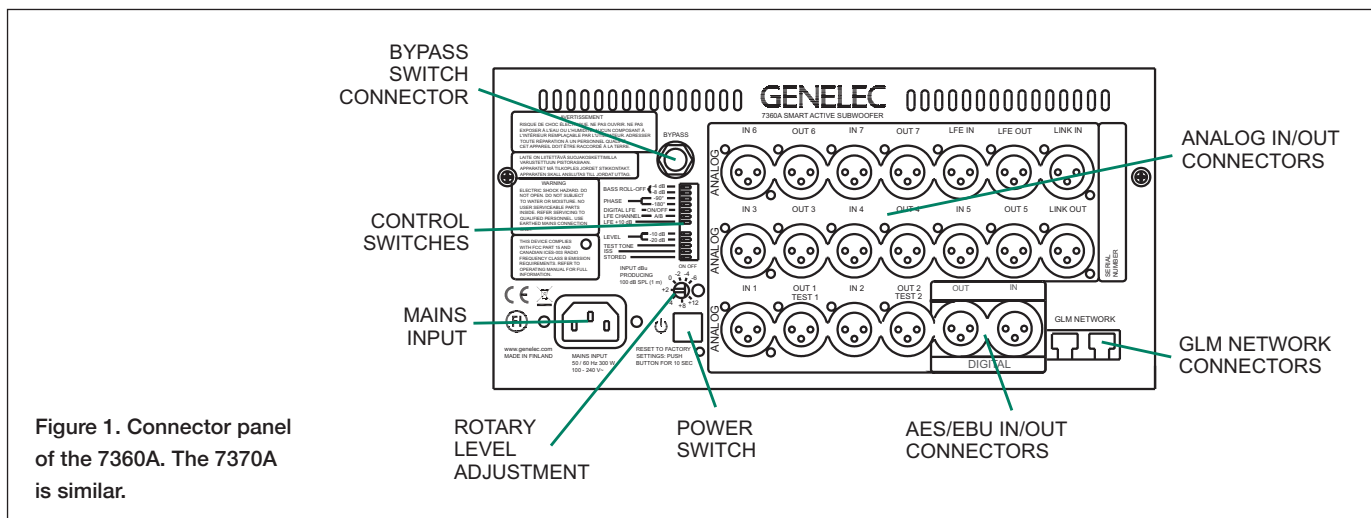

Figure 1. Connector panel of the 7360A. The 7370A is similar.
- Connect a CAT5 (RJ45) cable between each monitor (and subwoofer) and finally to the control network input of the GLM Adapter device (see Figure 1).